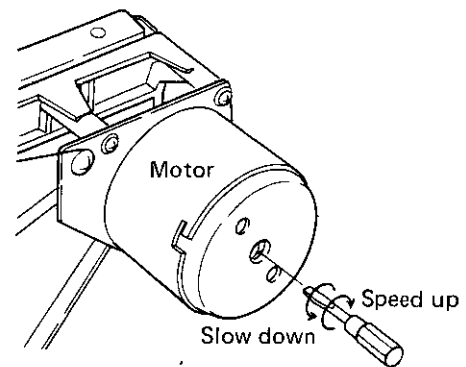

Fig. 15 Tape Speed Adjustments
3. Adjust the semi-fixed resistor inside the motor (see Fig. 15) so that the frequency lies within the 2,995Hz — 3,010Hz range at the beginning of the tape.